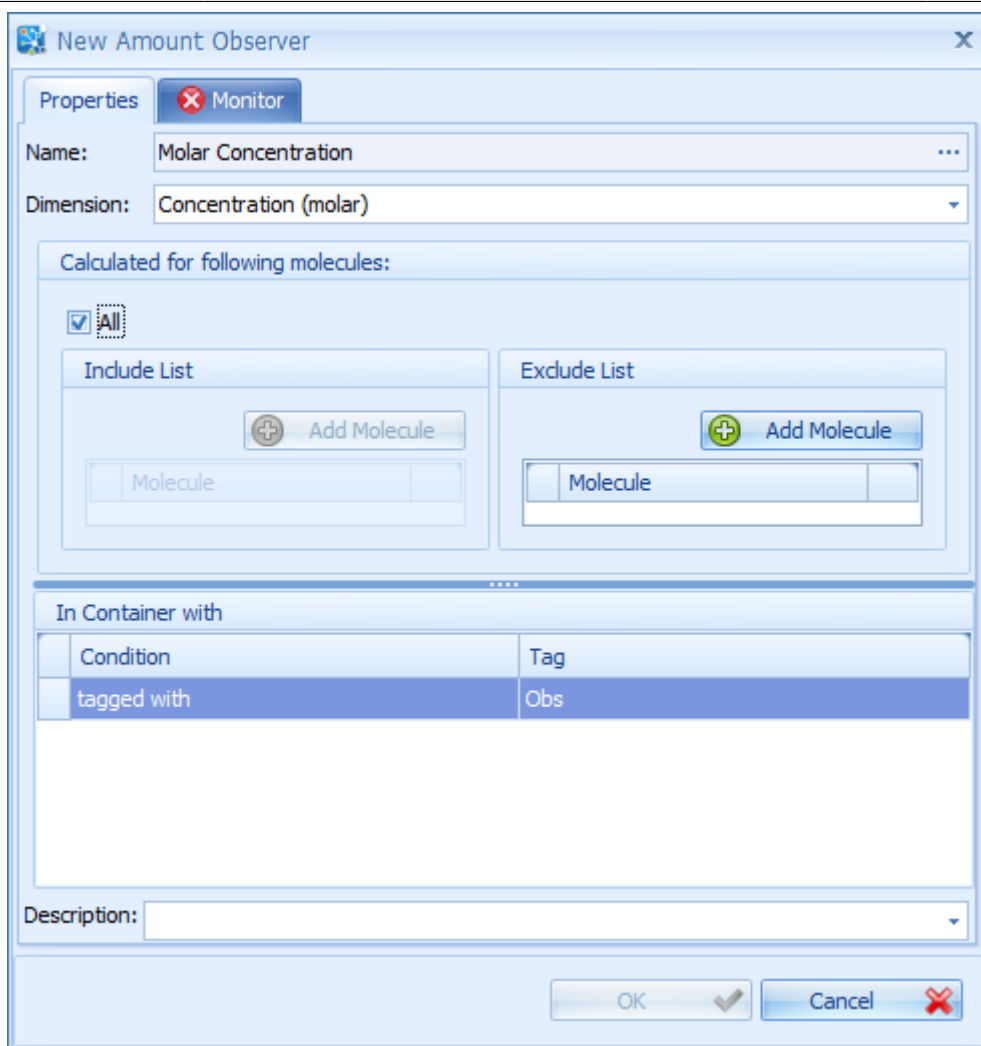

Figure 25.16. New Molecule Observer window
5. You are asked for a tag name. Select "Obs" from the combobox or enter it manually. The "New Molecule Observer" window should now look like in Figure 25.16.